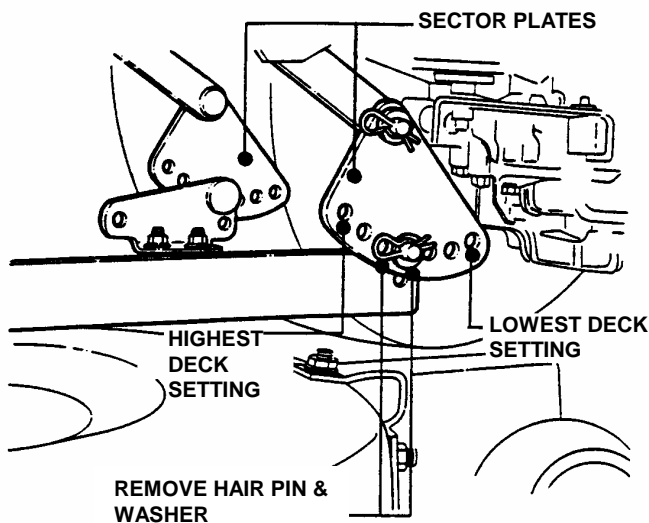

FIGURE 4.10
1. Remove hair pins and washers securing sector plates to rear lift arms. See Figure 4.10.